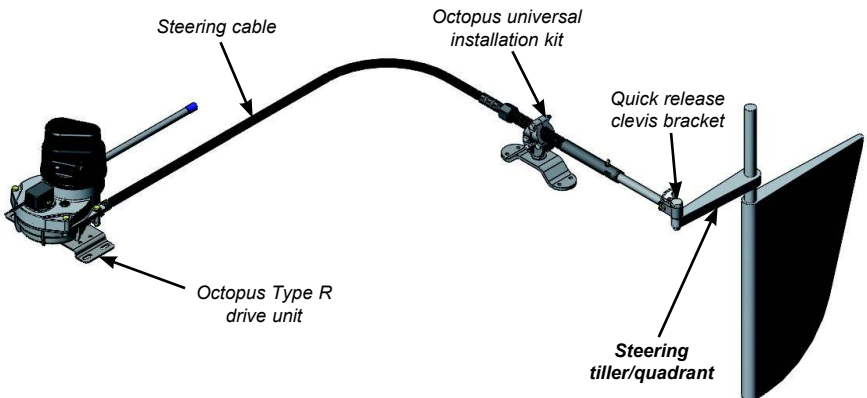

Fig B38 - Inboard installation configuration
- Position the connection kit so that the primary and secondary steering cable nuts are aligned (Fig B38). Tighten the nuts on both clamp assemblies and torque to 100in-lb (11nm).